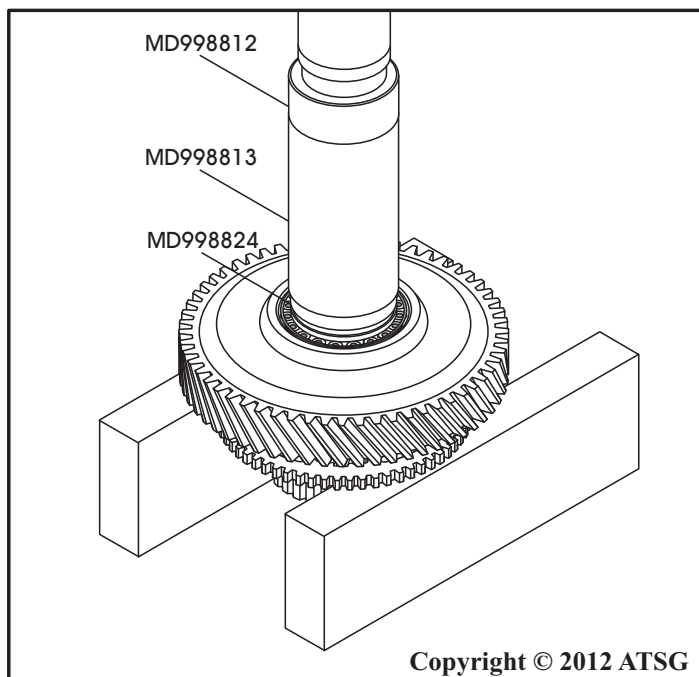

Figure 177
14. Press the tapered roller bearing into position, as shown in Figure 177.